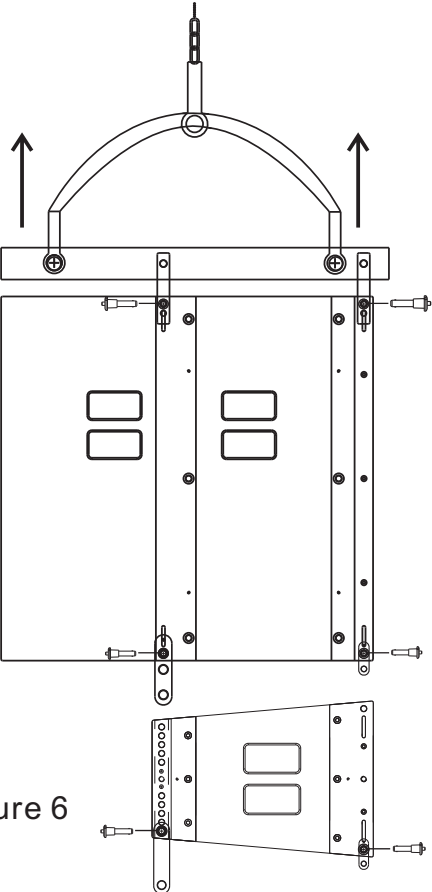

Figure 6
Step 6: Raise the hanger in the original position by about 300mm, and then put the main box under the bass box (as shown in Figure 6);